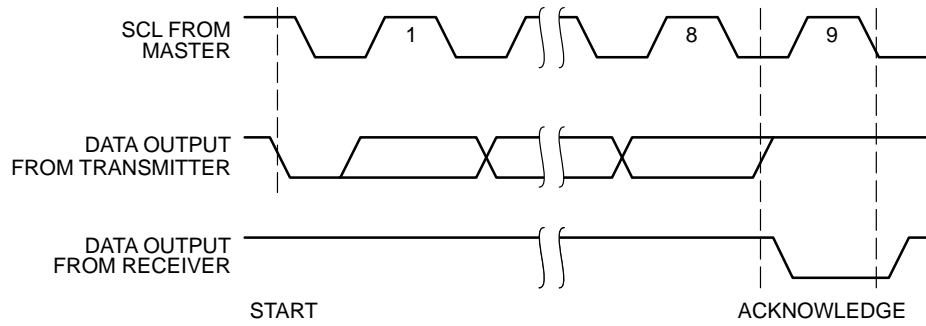
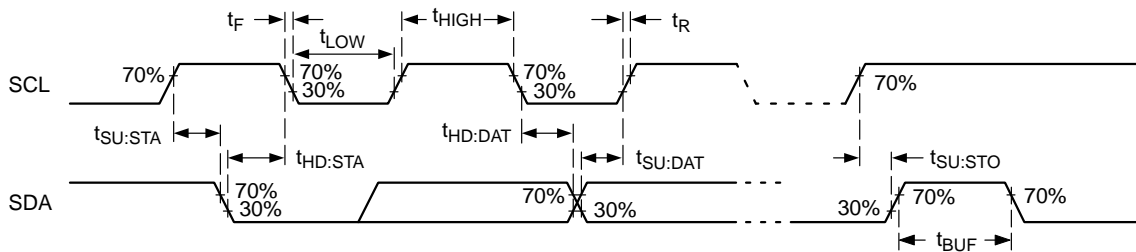

Figure 22. Acknowledge Timing
Figure 23. Bus Timing
- Timing reference points are set at 30%, respectively 70% of  $V_{CC}$ , as illustrated in Figure 23. Bus loading must be such as to allow meeting the  $V_{IL}$ ,  $V_{OL}$  as well as the various timing limits.
A matching Slave address is acknowledged (ACK) by the Slave by pulling down the SDA line during the 9th clock cycle (Figure 22). After that, the Slave will acknowledge all data bytes sent to the bus by the Master. When the Slave is the transmitter, the Master will in turn acknowledge data bytes in the 9th clock cycle. The Slave will stop transmitting after the Master does not respond with acknowledge (NoACK) and then issues a STOP. Bus timing is illustrated in Figure 23.